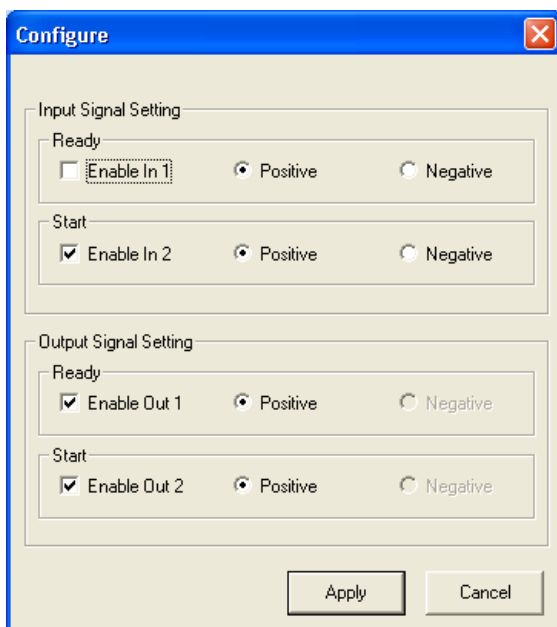

Figure 7-4 External Start Configuration Dialog Box
1. Click the **Configure** button to open the Configuration dialog box (Figure 7-4).